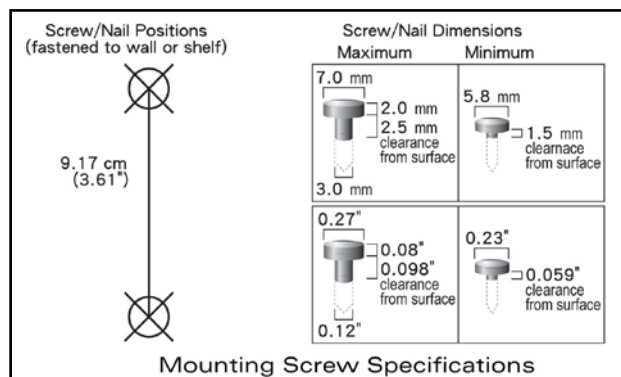

Figure 1: EEPoE Midspan mounting instructions
1. Install two screws in the wall or shelf as shown in Figure 1.